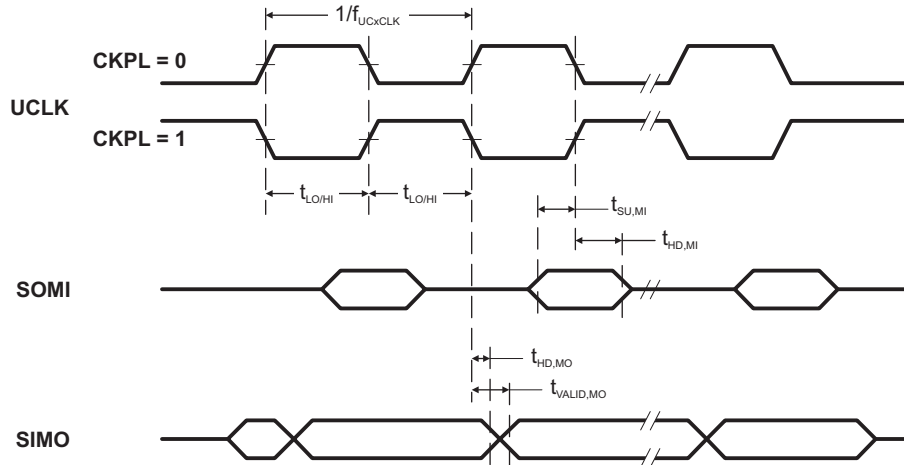
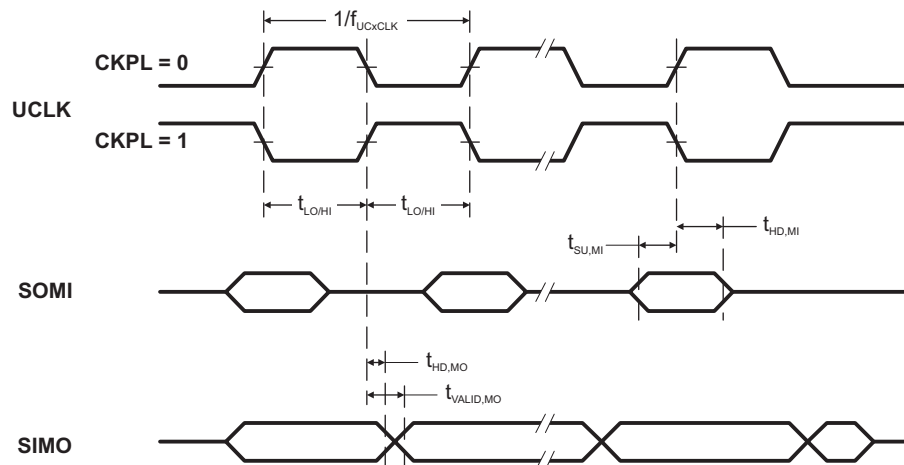

Figure 5-12. SPI Master Mode, CKPH = 0
Figure 5-13. SPI Master Mode, CKPH = 1
(see Note ⁽¹⁾, Figure 5-12, and Figure 5-13)
- (2) Specifies the time to drive the next valid data to the SIMO output after the output changing UCLK clock edge. Refer to the timing diagrams in Figure 5-12 and Figure 5-13.
- (3) Specifies how long data on the SIMO output is valid after the output changing UCLK clock edge. Negative values indicate that the data on the SIMO output can become invalid before the output changing clock edge observed on UCLK. Refer to the timing diagrams in Figure 5-12 and Figure 5-13.
- (2) Specifies the time to drive the next valid data to the SOMI output after the output changing UCLK clock edge. Refer to the timing diagrams in Figure 5-12 and Figure 5-13.
- (3) Specifies how long data on the SOMI output is valid after the output changing UCLK clock edge. Refer to the timing diagrams in Figure 5-12 and Figure 5-13.